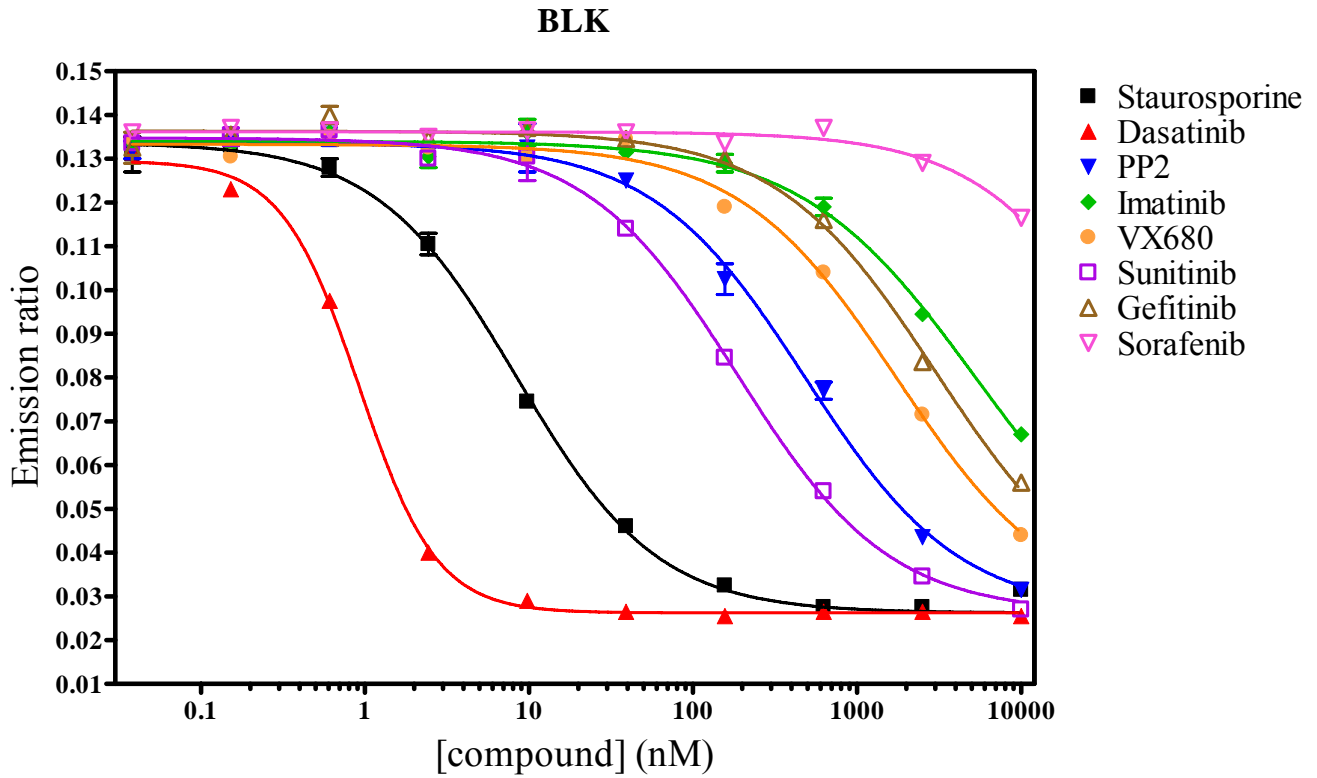

Figure 7. Representative data generated at Invitrogen.
2. Plot [test compound] versus emission ratio. The sigmoidal dose-response curve with a variable slope can be fit to the data (see section 1.3, step 2 for equation). Representative data generated by Invitrogen for a set of well-characterized kinase inhibitors is presented in Figure 7. A comparison of IC₅₀ values to literature and in some cases internally generated data from activity-based assays (SelectScreen® profiling service) are provided as a reference in Table 1.